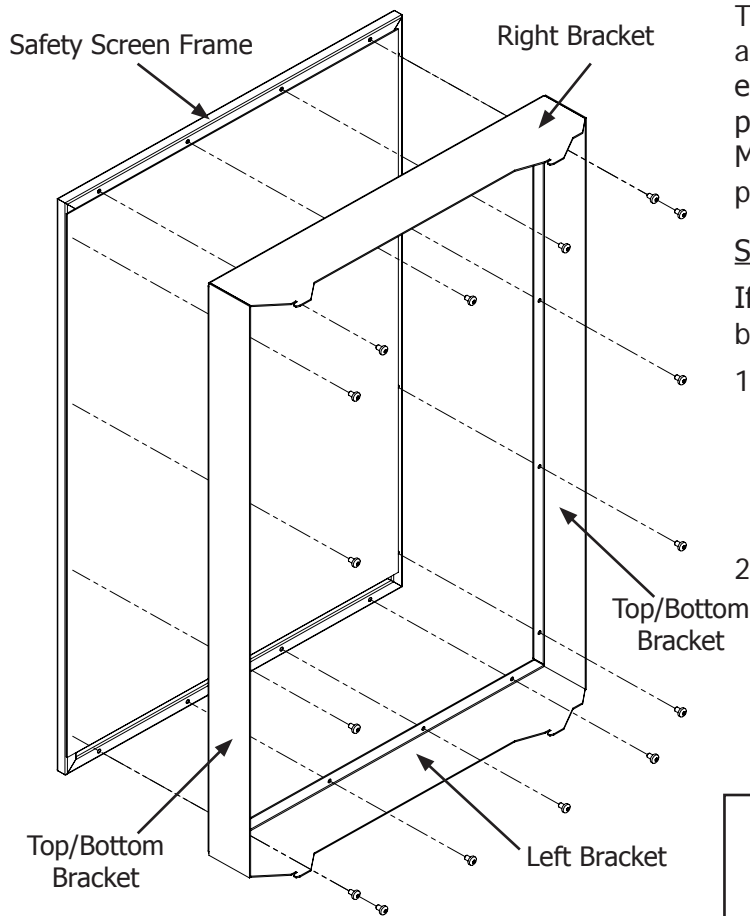

Figure 61: Installing Safety Screen Mounts.
1. Attach the left, right, top/bottom brackets onto the safety screen using a T20 screwdriver and the supplied sixteen (16) #8 T20 screws (see Figure 61). Do not over-tighten the screws, doing so could cause them to strip out of the screen frame.